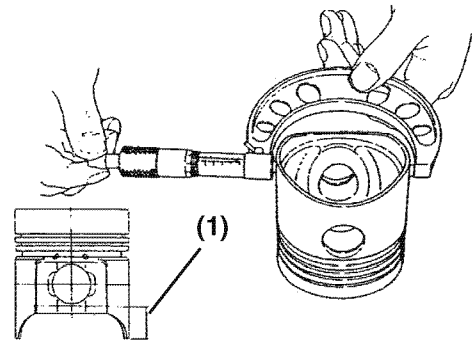

Figure 6-114
4. Measure the diameter of the piston skirt at 90° to the wrist pin bore as shown (**Figure 6-114**). Measurements must be taken at a specified distance (**Figure 6-114, (1)**) from the bottom of the piston, based on engine model. Record the measurements. *See Piston on page 6-14 for specifications.*